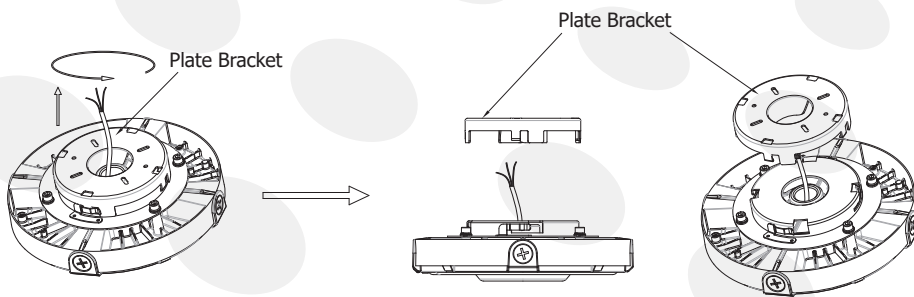

Figure 3
1. Take off the Plate Bracket from the fixture (Figure 3).